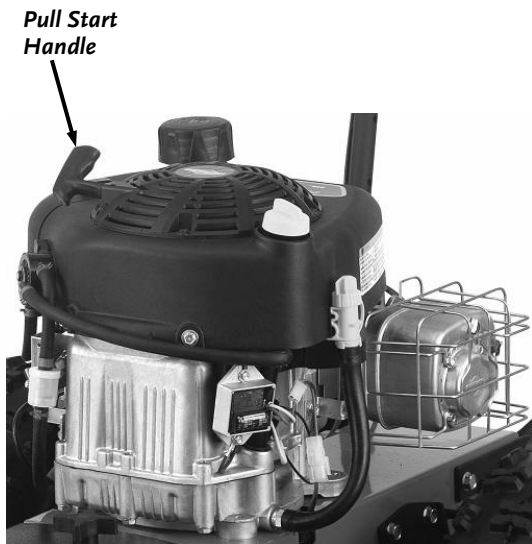

Figure 18
- Grasp the Recoil Starter Handle and slowly pull until you feel resistance (**Figure 18**). Let the Cord retract a little bit, and then pull the Cord rapidly to start the Engine.